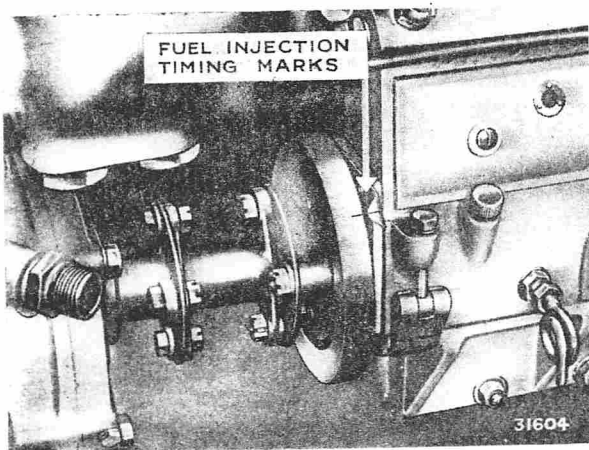

FIG. 19. INJECTION PUMP TIMING MARKS
2. Turn the pump camshaft until the mark on the flywheel is in line with the pointer on the pump body (Fig. 19), insert setscrews connecting flexible coupling to flywheel and tighten securely.